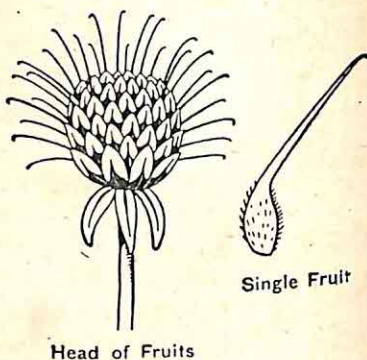

FIG. 158.—AVENS.
*Dispersal by animals* occurs in two ways. Many fruits, such as avens (Fig. 158), goosegrass or burdock, have small hooks which catch in the fur of animals, or in the feathers of birds. The fruits may travel big distances before they are rubbed off.